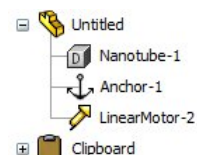

Figure 18
13. Now you should be able to view the Parts Menu in the Side Menu window. (Figure 18). This is a list of all the parts or “chunks” that are in your molecule. There should be three of them listed: The anchor, the linear motor, and the carbon nanotube. Right-click on the linear motor and open the properties dialog box.